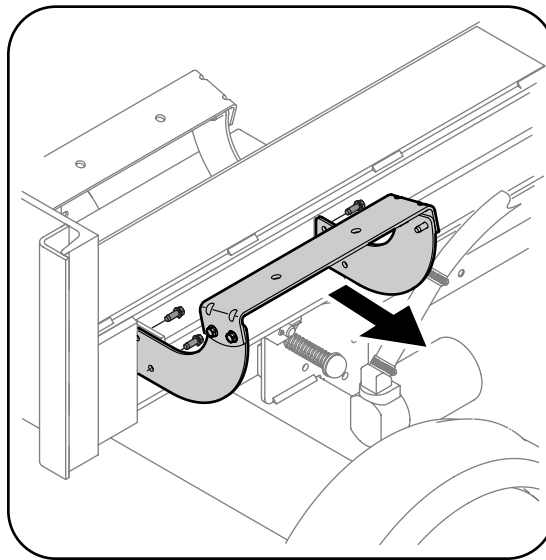

Figure 3-5
3. Disconnect the log cradle from the beam on the side of the control valve. See Figure 3-5.
NOTE: The log cradle may be mounted in a forward position at the factory for shipping purposes, it should be remounted according to the image in Fig. 3-5.
NOTE: The log cradle may be mounted in a forward position at the factory for shipping purposes, it will be remounted according to the image in Fig. 3-5.